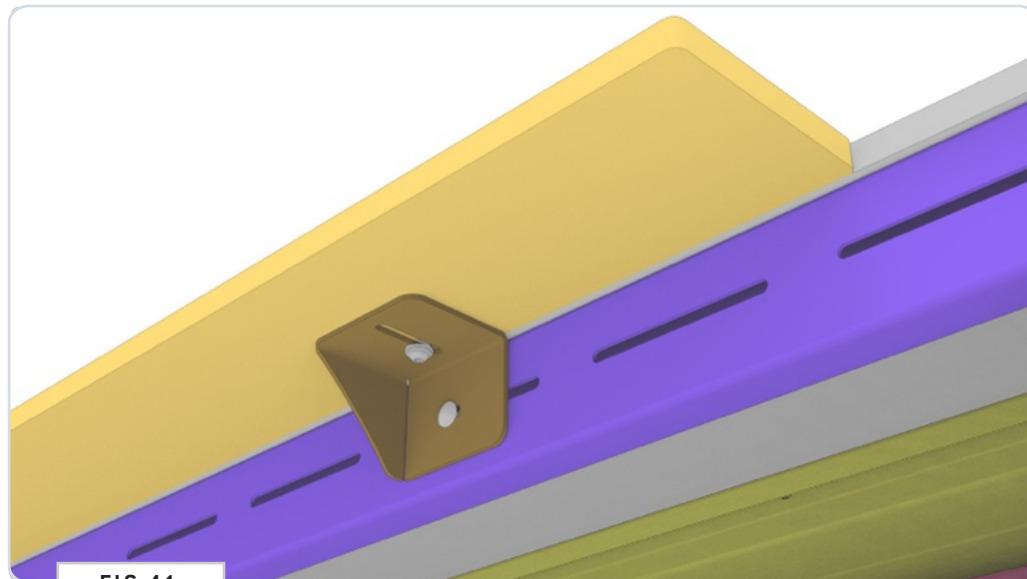
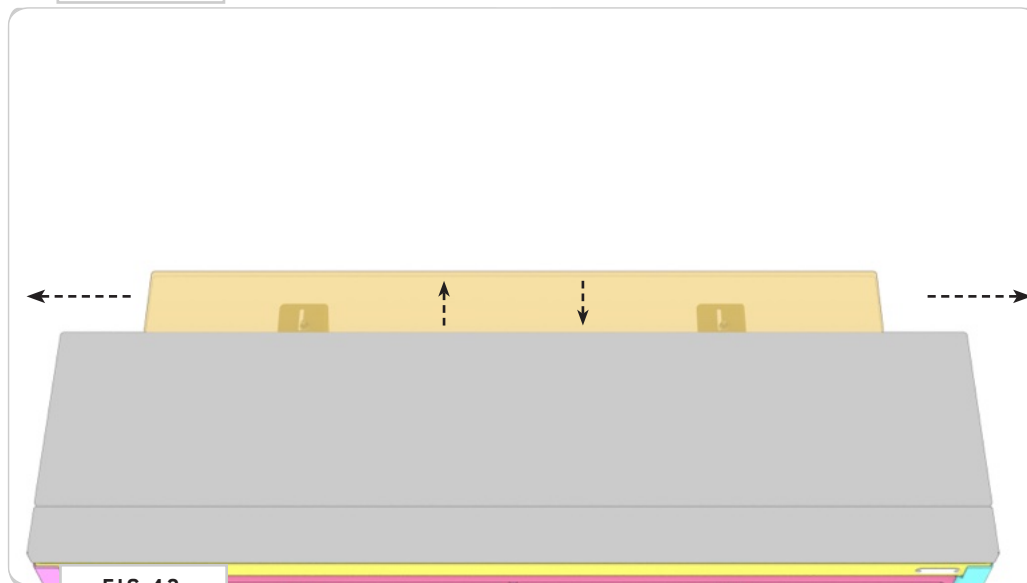

FIG 41
FIG 42
**6.5 Fit and Install Bed Extension:** Loosely attach the assembled **Bed Extension** in the orientation as shown to the **Rear Stretcher** of the **Cabinet** using (2) 1/4-20 x 0.75 Square Neck Carriage Bolts, Flat Washers and Nylon Locknuts (FIG 41). Adjust left, right, up and down until you're satisfied with the fitments and finish by securing all fasteners (FIG 42).